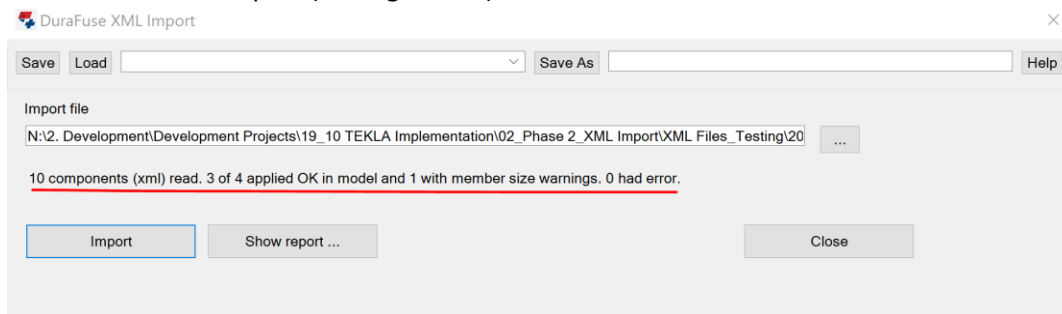

Figure 5-4. XML Import Dialog Message
- After the XML import is complete, the dialog will indicate whether there are any errors and details about the import (see Figure 5-4).